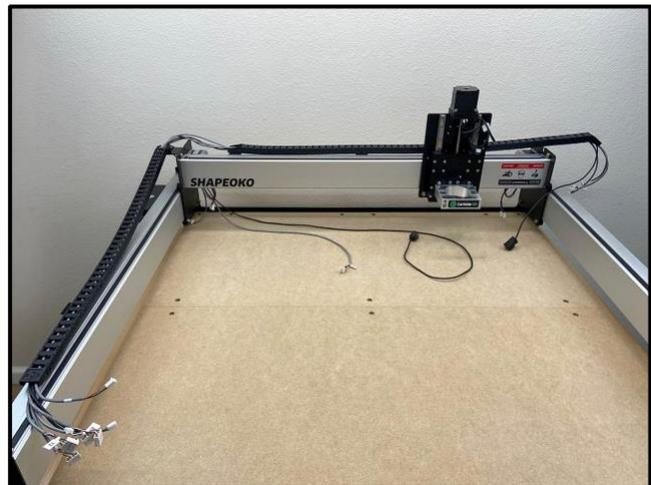

Figure 26
2. Lay the drag chain on the rails. See **Fig. 26**.